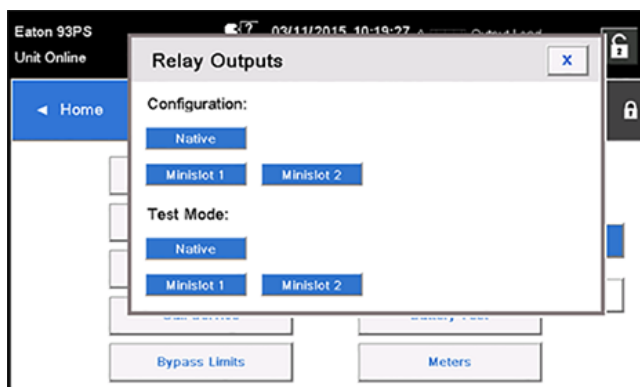

Figure 28. Options for relay outputs configuration
10. You can test the relays by selecting any of the options in the test mode (see Figure 28).